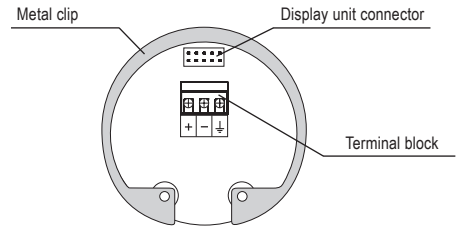

Fig. 20: Internal view of terminal block
5. Connect the cable into the bolted clips according to the diagram in Fig. 20. Tighten the bolted clips and the cable bushing.